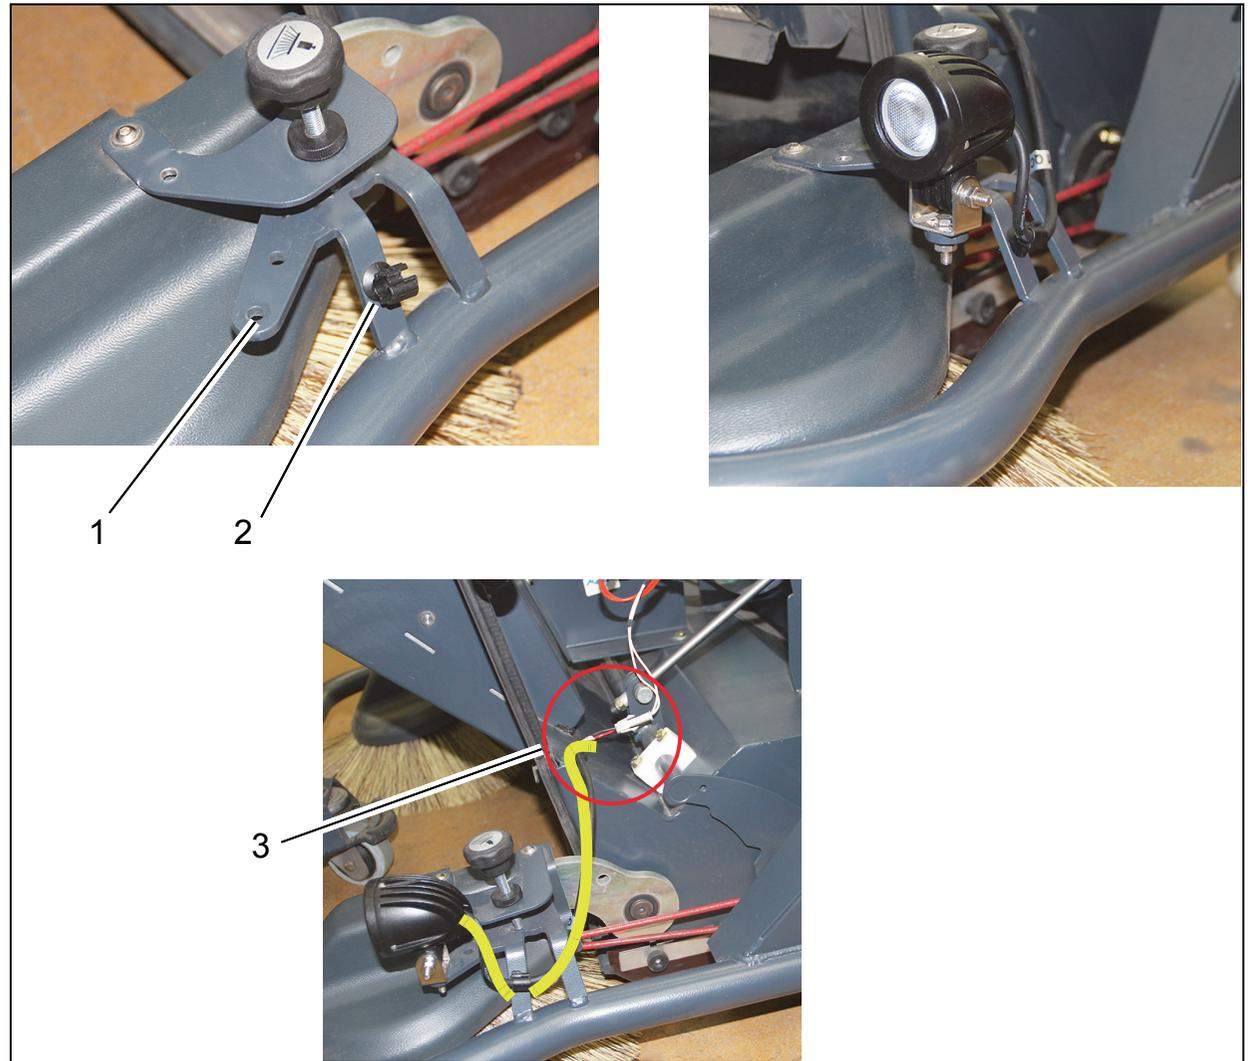

Fig. 3
1. Fit working light to holder (Fig. 3/1).
2. Insert corrugated hose holder into existing hole (Fig. 3/2).
4. Connect plug of working light to 2-pin connector E21 of cable loom W 3 (Fig. 3/3).